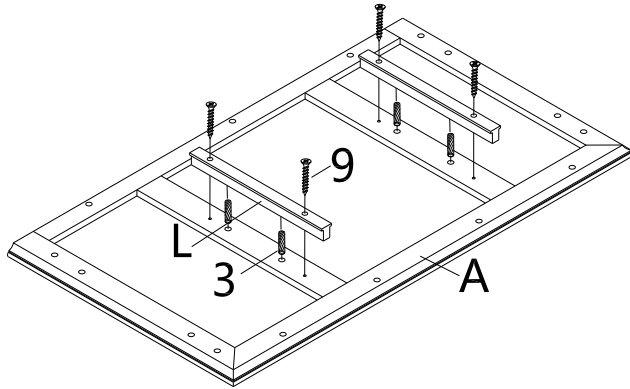

Figure 7
Insert Cam Locks (2) into predrilled holes on unit from Figure 7.
Attach Top Panel (A) to unit from Figure 7 by inserting Cam Bolts (1) into corresponding holes until components meet.